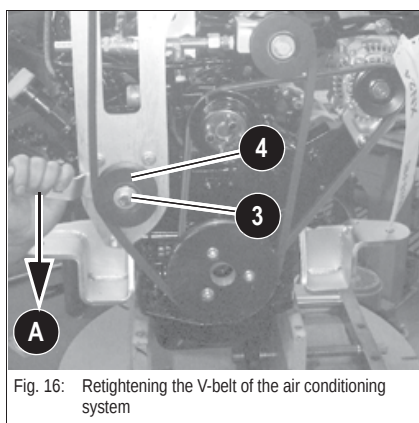

Fig. 16: Retightening the V-belt of the air conditioning system
- ✎ Press the belt tensioner in the direction of arrow **A** until reaching the correct V-belt tension (fig. 16).